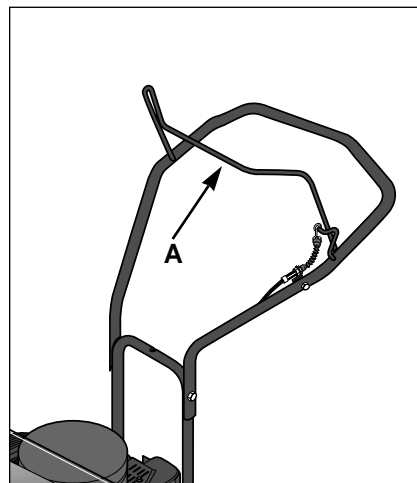

Figure 4-3
A. The trimmer head control bail (A, Figure 4-3) is used to start and stop trimmer head motion.